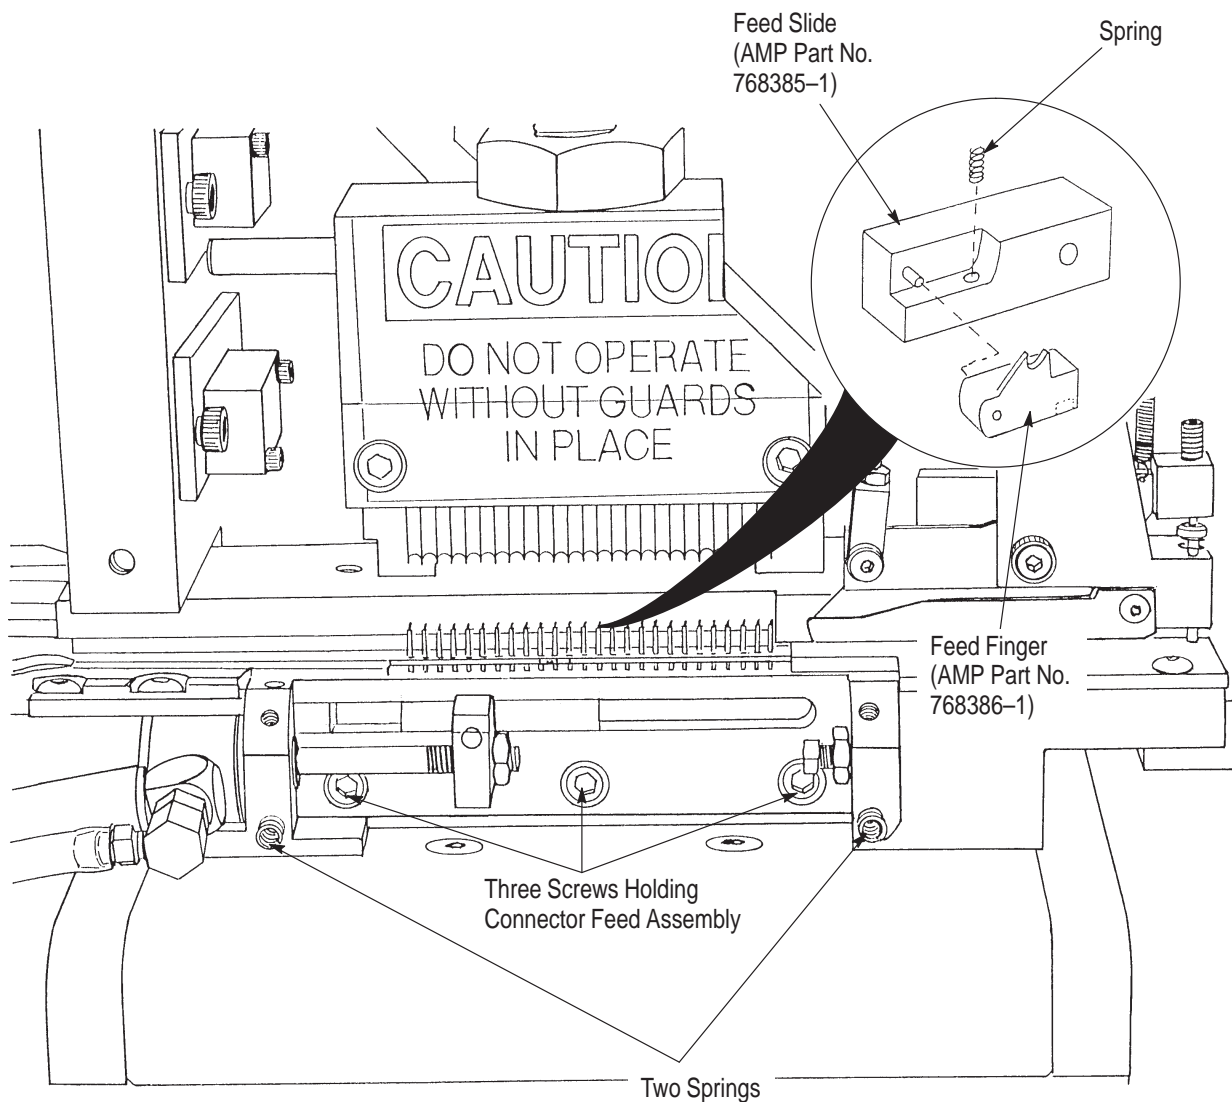

Figure 20
8.3. Feed Finger Replacement (Figure 20)